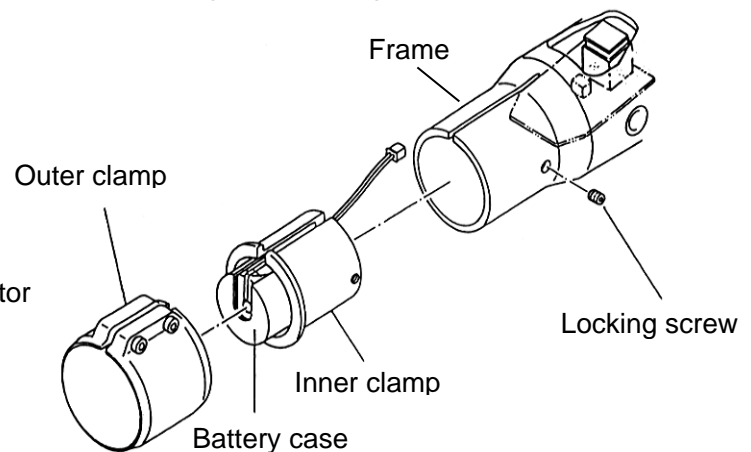

Fig.8 Removing the clamp
3. Remove the outer clamp off the frame, remove the locking screw, then pull out the inner clamp together with battery case. (See Fig.8.)
\* In setting the inner clamp, have the battery connector be on the front surface side of the circuit board, as shown in Fig.8.